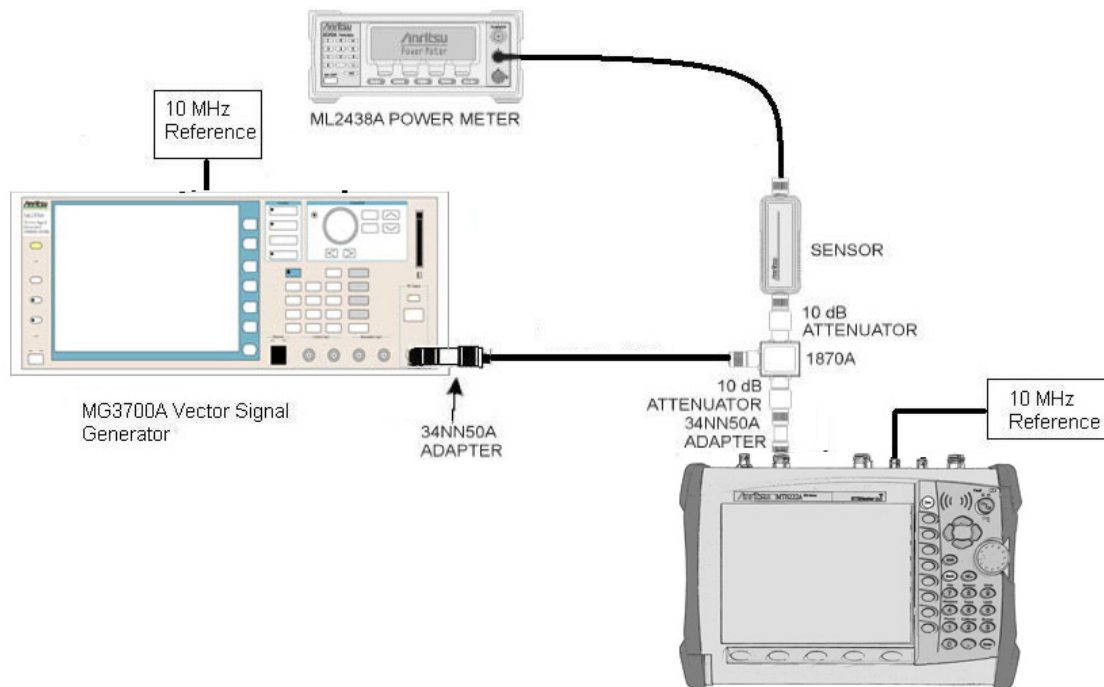

Figure 5-14. Mobile WiMAX Channel Power Accuracy Tests
4. Connect the Power Sensor, 1870A splitter, 10 dB attenuators (quantity 2), as shown in Figure 5-14, “Mobile WiMAX Channel Power Accuracy Tests”.